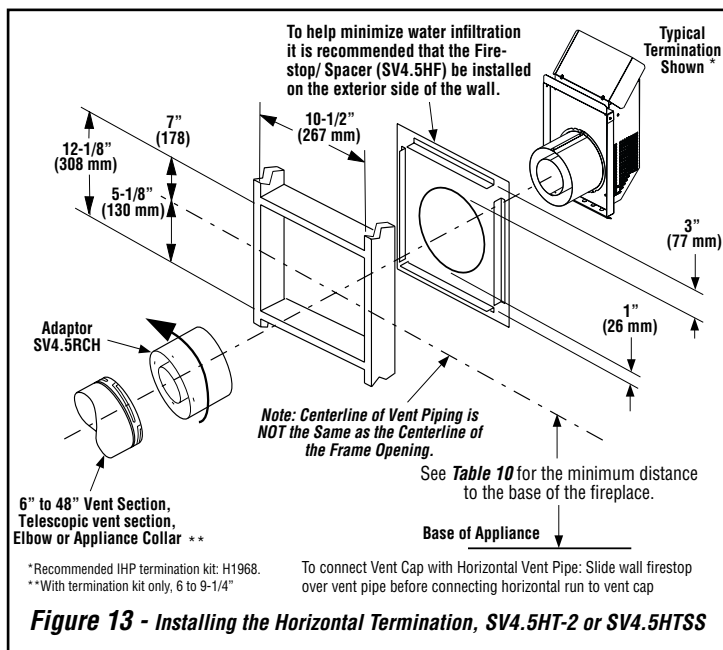

Figure 13 - Installing the Horizontal Termination, SV4.5HT-2 or SV4.5HTSS
- Carefully determine location where vent pipe assembly will penetrate outside wall. Mark center line of pipe on wall. Mark wall for a 12-1/8" x 12-1/8" square hole, where bottom of square starts 5-1/8" below center line of pipe (see Figure 13). This will provide the 3" minimum spacing needed on top of horizontal pipe. Cut and frame 12-1/8" x 12-1/8" rectangular hole in exterior wall where vent will be terminated. If wall being penetrated is constructed of noncombustible material, such as masonry block or concrete, an 8" hole with zero clearance is acceptable.